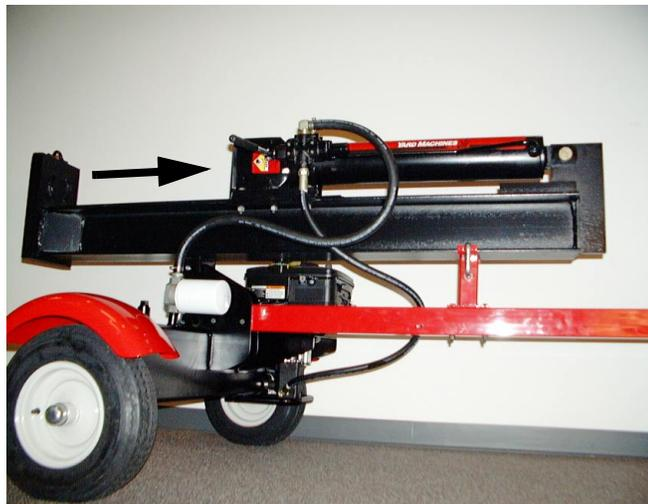

Figure 1
1. Make certain the wedge assembly is in the fully retracted position. _____ See Figure 1.